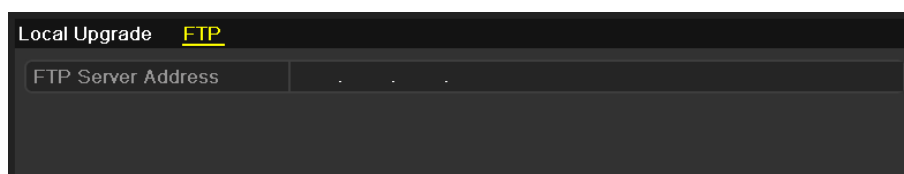

Figure 12-8 FTP Upgrade Interface
Step 2 Click the **FTP** tab to enter the local upgrade interface, as shown in Figure 12-8.